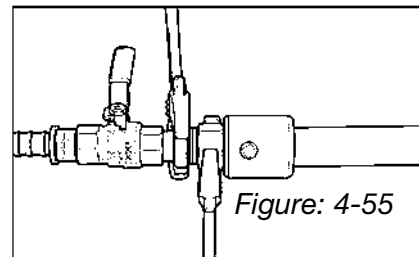

Figure: 4-55
- Thread nut onto adapter previously installed on the equipment. Using appropriate wrenches, hold adapter and tighten nut to proper torque specified. Figure: 4-55. Do not over tighten or use any pipe dope or thread sealants on this connection. This is a metal-to-metal seat and will not seal if pipe dope or thread sealants are used. Sealants are to be used on the NPT connection to the equipment only!